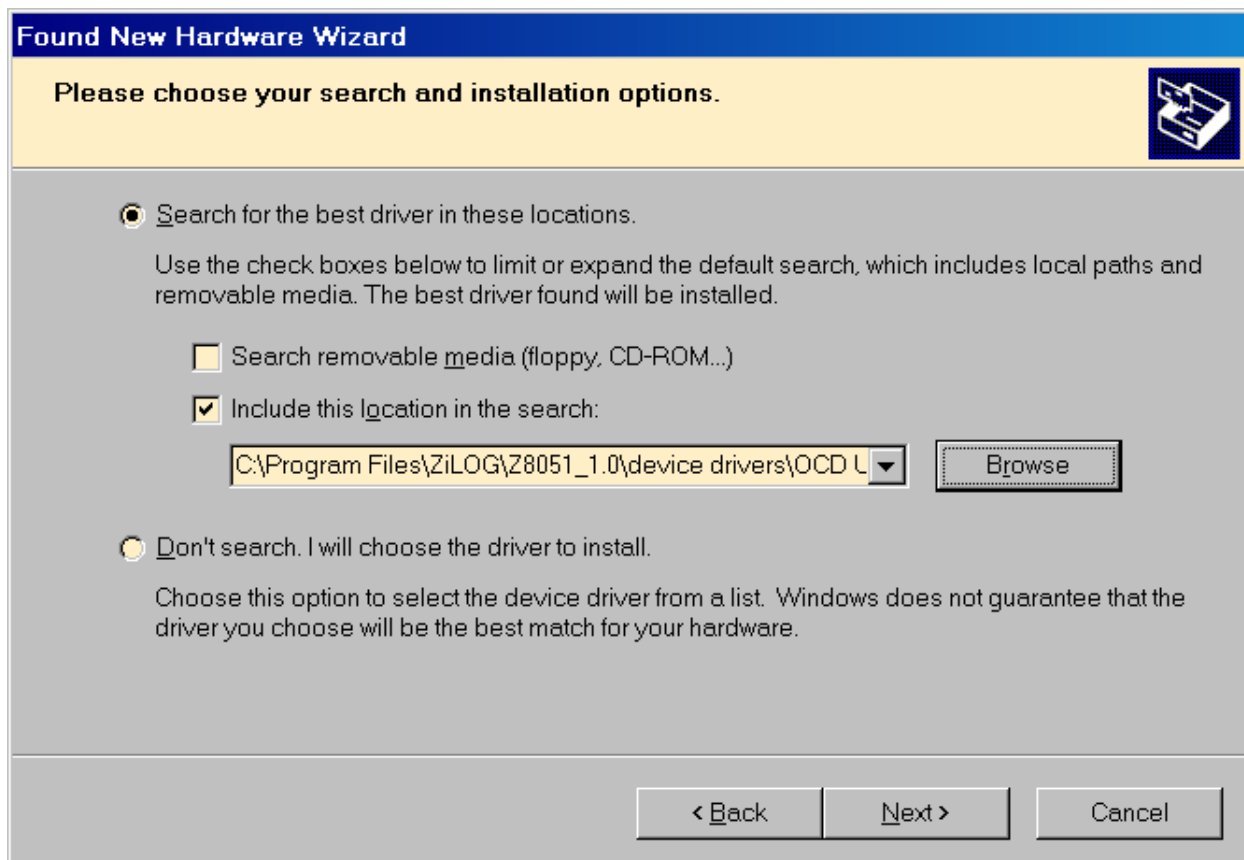

Figure 4. The Found New Hardware Wizard's Browse Screen
3. The next dialog box, shown in Figure 4, prompts you to choose either the browse or entry options for where you will store the .inf file. Depending on the type of computer you use (32-bit or 64-bit), use the **Browse** button to navigate to one of the following paths and click the **Next** button, leaving all other selections at their default settings. *[For correct and current branding, please change instances of “ZILOG” to “Zilog”.]*